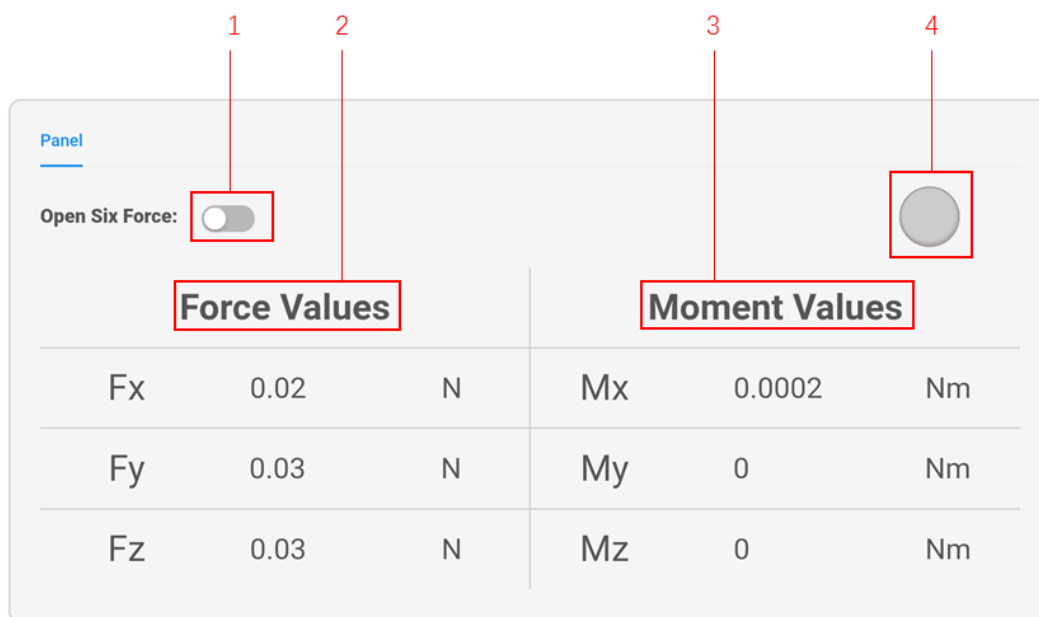

Figure 3.6 Panel tab
Step 4 After installation, the Panel tab is displayed on the screen, as shown in Figure 3.6. The parameters in Panel tab are described in Table 3.1.